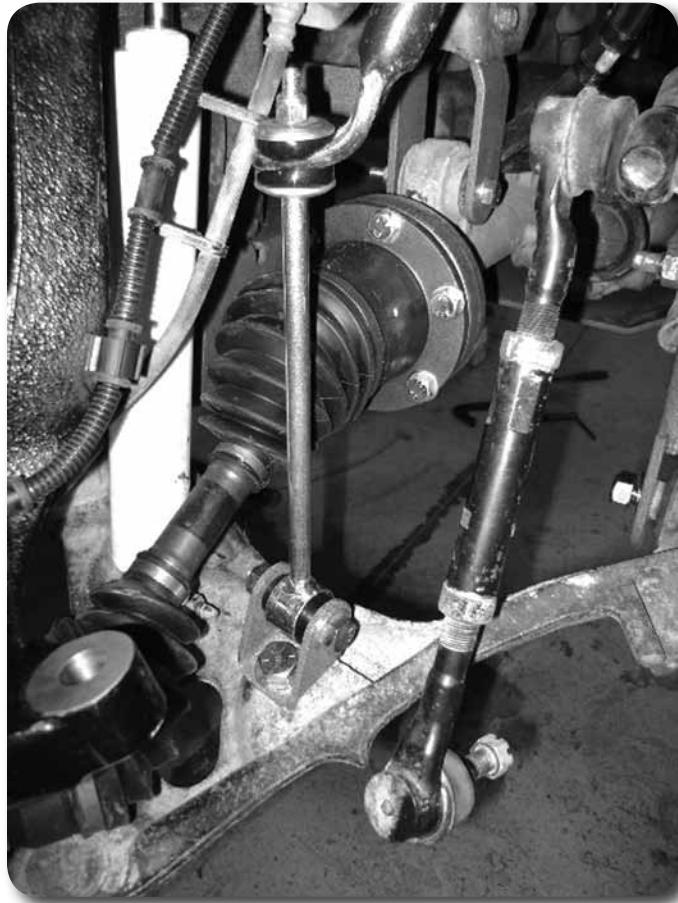

Figure 18
55. Install a provided stem washer then a stem bushing on the top ends of the sway bar links. Align the links with the sway bar holes and slide the sway bar onto both the links. Install a second stem bushing and then a washer on the sway bar link ends. Fasten the assemblies with the provided 7/16" nylock nuts. Tighten nuts just until the bushings begin to swell. **Figure 18**